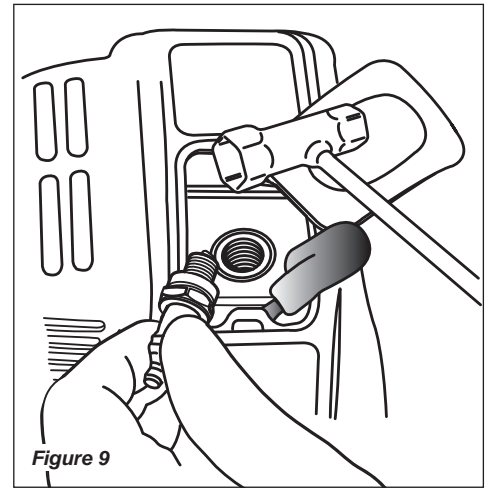

Figure 9
1. Disconnect the spark plug lead, and then use the spark plug wrench to unscrew the spark plug (counter-clockwise to remove.) See Figure 9